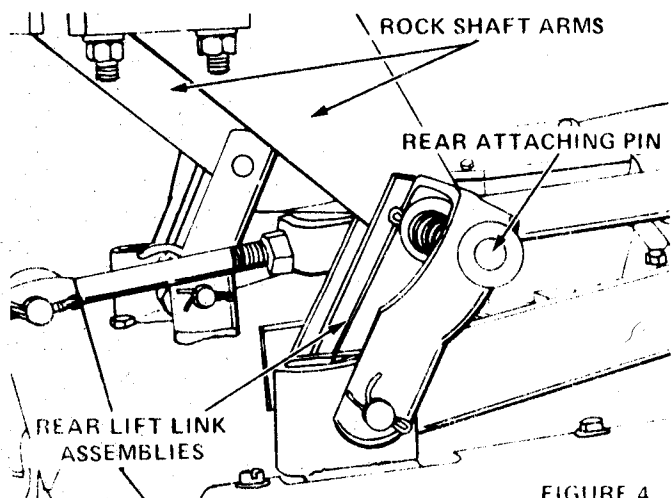

FIGURE 4
6. Pull the spring loaded rear attaching pins out and move the rock shaft arms up or down until holes in rock shaft arms align with the pins. Release the pins so they engage the holes in the rock shaft arms as shown in Figure 4.